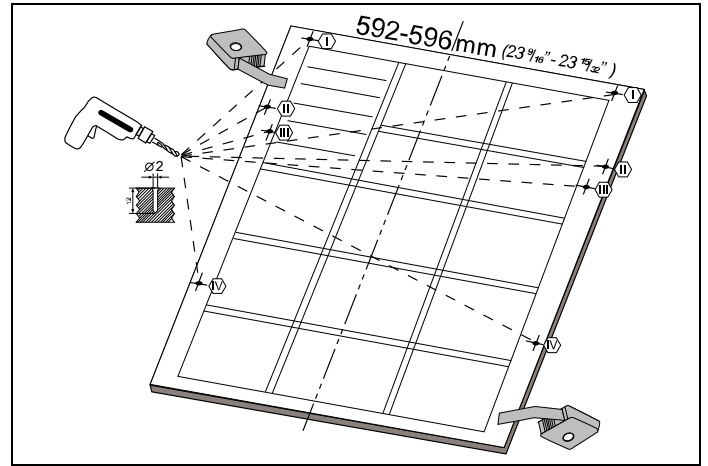

Fig. 24
As shown in Fig. 24, you must measure the height and depth of the cabinetry to determine the dimensions of the outer door.
2) As shown in Fig. 24, the screw hole is opened to the outer door from the points marked on the installation plan. Diameter of Drill Bit: 5/64" (2 mm) Depth of Drill Bit: 15/32" (12 mm)